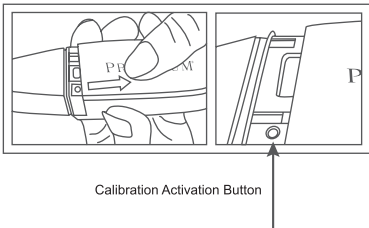

Fig. 1.11
4. Remove the Battery Cover to reveal the Calibration Activation Button; a hole at the bottom left edge, as shown in **Fig. 1.11**.